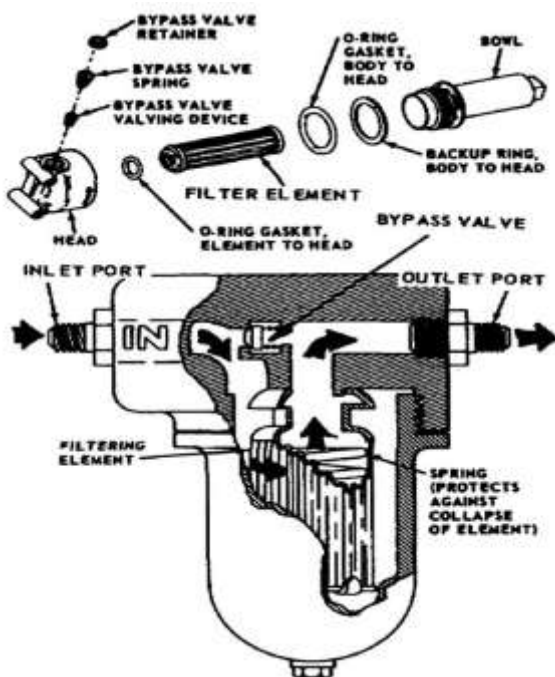

Figure 2
**b. Filters.** A filter removes small foreign particles from a hydraulic fluid and is most effective as a safeguard against contaminants. Filters are located in a reservoir, a pressure line, a return line, or in any other location where necessary. They are classified as full flow or proportional flow. Figure 2 in a full-flow filter, all the fluid entering a unit passes through a filtering element. Although a full-flow type provides a more positive filtering action, it offers greater resistance to flow, particularly when it becomes dirty. A hydraulic liquid enters a full-flow filter through an inlet port in the body and flows around an element inside a bowl. Filtering occurs as a liquid passes through the element and into a hollow core, leaving the dirt and impurities on the outside of the element[2]. A filtered liquid then flows from a hollow core to an outlet port and into the system.